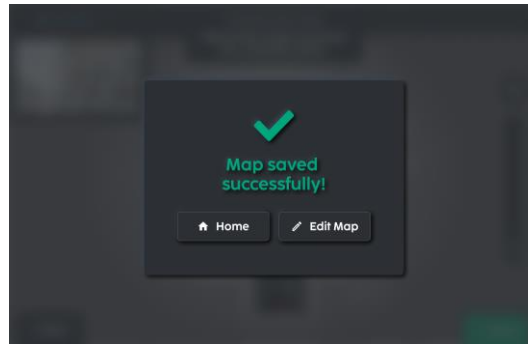

FIGURE 4-6
6. Map is saved successfully (Fig. 4-6).